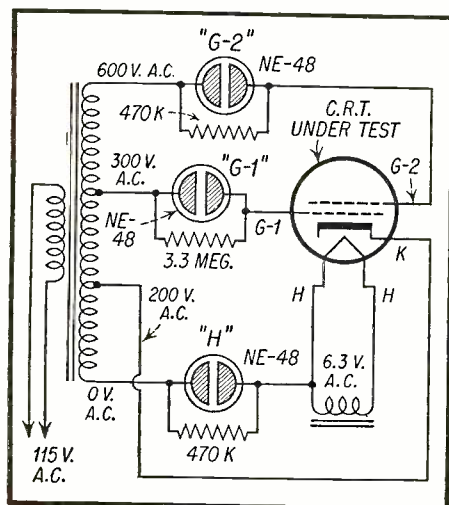

Fig. 2—Simplified schematic of "shorts" and "opens" test circuit.
You will note from Fig. 2 (which is a simplified schematic of the circuit during "shorts-opens" tests) that the heaters (H-H), the cathode (K), the control grid (G1) and the accelerating grid (G2) are all connected to taps on the secondary of the power transformer. All the elements mentioned with
short or shorting particle), *ac* current can now flow during both half cycles between cathode and heaters. Under these circumstances, both halves of the neon bulb labeled "H" will be illuminated, in addition to the normal illumination of the G-1 and G-2 lamps. The reader can easily check the remaining sets of conditions illustrated in Fig. 2 by similar analysis.